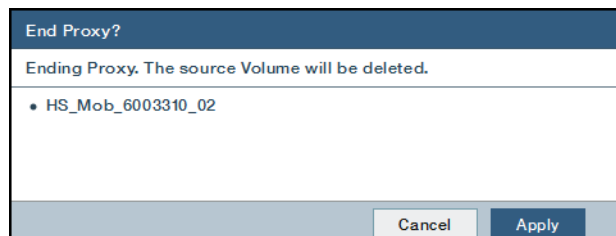

Figure 3-29 Confirm the ending of the IBM Hyper-Scale Mobility proxy
3. A confirmation window opens, as shown in Figure 3-29, to ensure that you mapped the host to the destination volume and confirmed access to it. This was confirmed in the Cleanup stage.